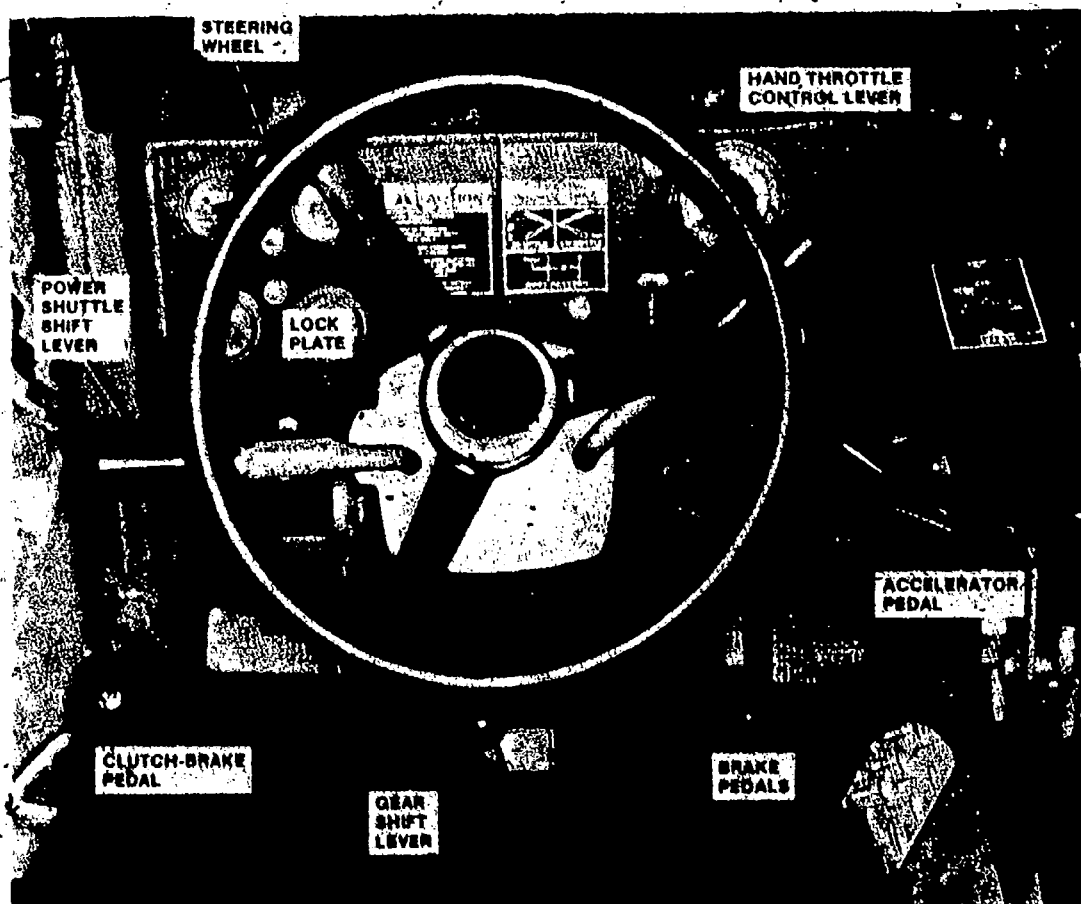

Fig 4-10. Driver's compartment controls.
(2) Driver's compartment controls (fig 4-10).